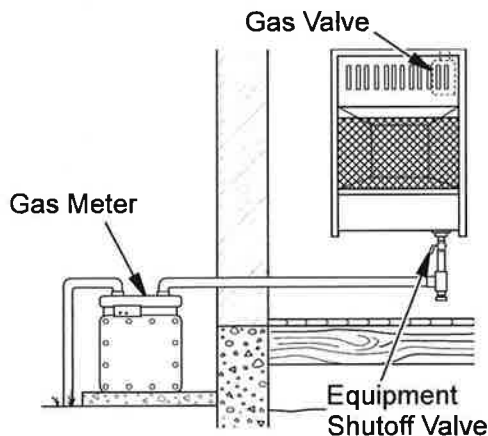
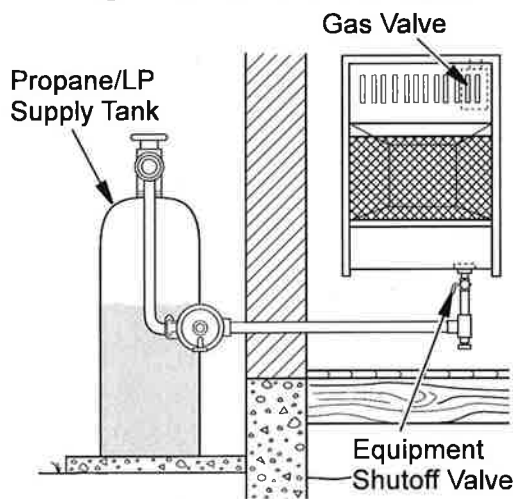

Figure 17 - Natural Gas Supply
Figure 18 - Propane/LP Fuel Supply
3. Check all joints from gas meter (natural gas installations, see Figure 17) or from propane/LP tank (propane/LP gas installations, see Figure 18) to equipment shutoff valve. Apply a noncorrosive leak detection fluid to all joints. If bubbles form, there is a leak.
4. Check all joints from equipment shutoff valve to control valve (see Figure 17 or 18). Apply a noncorrosive leak detection fluid to all joints. Bubbles forming show a leak.